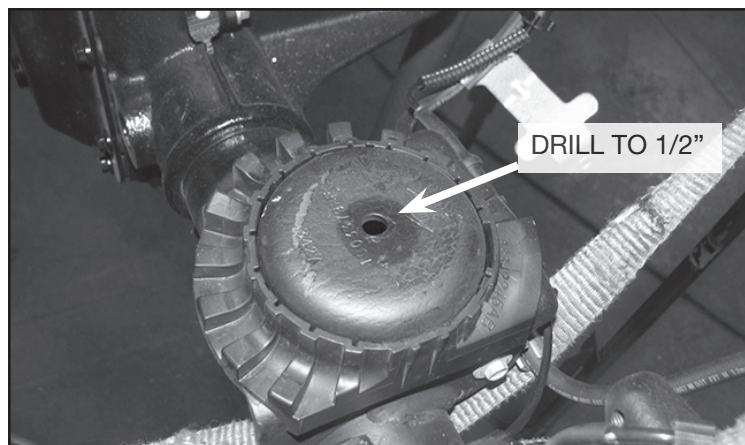

FIGURE 14 - STEP 12
12. On the factory coil spring perch. Use a drill with 1/2" drill bit and drill out the existing factory hole on both driver & passenger sides. **SEE FIGURE 14**